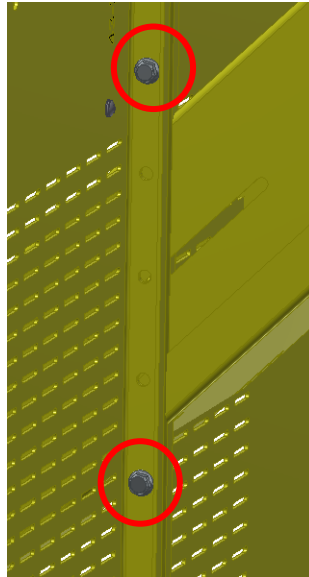

Figure 30: Machine Guard Rope Panel Bolts
- If the Machine Guard Rope Panels (p/n's _ _-237 & _ _-238) are notched, install the provided 1/4-20 hardware as shown below (Figure 30). Install one set of hardware below the notch and one set of hardware above the notch. For some roping configurations hardware will not be able to be installed below the notch.